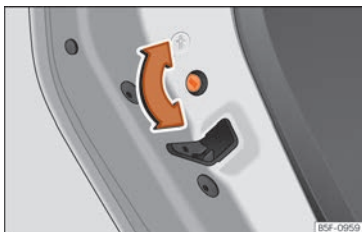

Fig. 88 Childproof lock on the left hand side door.
- With the door open, rotate the groove in the door using the ignition key, clockwise for the left hand side doors » **Fig. 88** and anti-clockwise for the right hand side doors.
- With the door open, rotate the groove in the door using the ignition key, anti-clockwise for the left hand side doors » **Fig. 88** and clockwise for the right hand side doors.